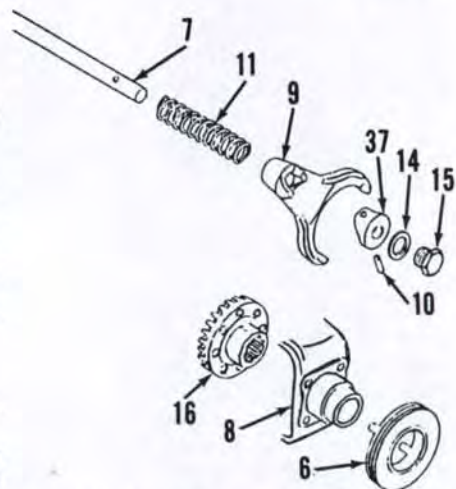

Fig. 114—Exploded view of differential lock mechanism used on Models L175, L225 and L225DT so equipped.
128. REMOVE AND REINSTALL. To remove differential lock actuating mechanism, first remove seat and rockshaft housing. Remove plug (15—Fig. 114) from left side of rear axle center housing. Extract retaining spring pin (10) from actuating cam (37) and withdraw actuating rail (7) from left side, lifting out cam (37), fork (9) and